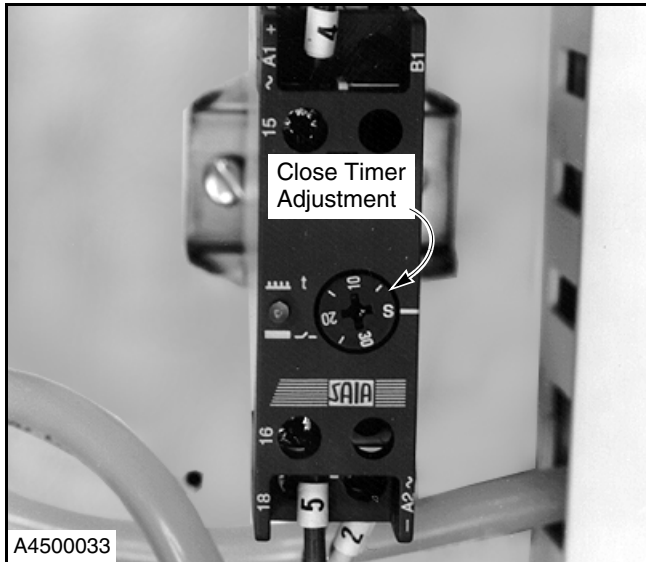

Figure 45
- Turn the timer dial to the desired close delay setting. (See Figure 45.)